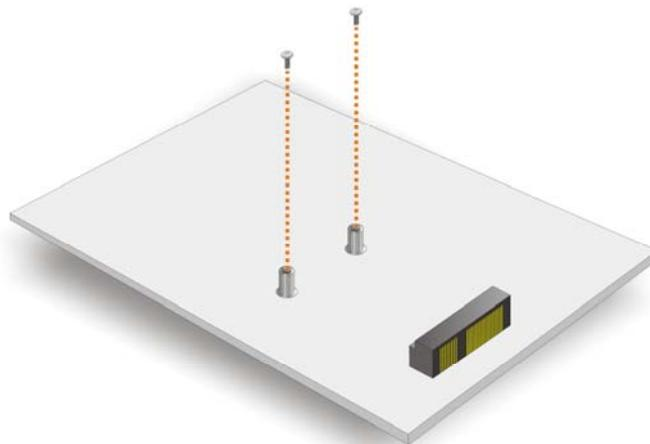

Figure 4-9: Remove the Retention Screws for the mSATA Card
Step 2: Remove the retention screws. Remove the two retention screws secured on the motherboard as shown in **Figure 4-9**.